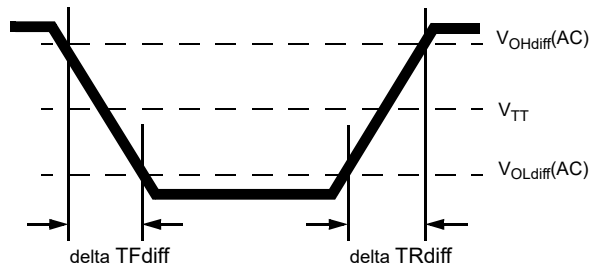

Figure 18. Differential Output Slew Rate Definition
With the reference load for timing measurements, output slew rate for falling and rising edges is defined and measured between VOLdiff(AC) and VOHdiff(AC) for differential signals as shown in Table 30 and Figure 18.